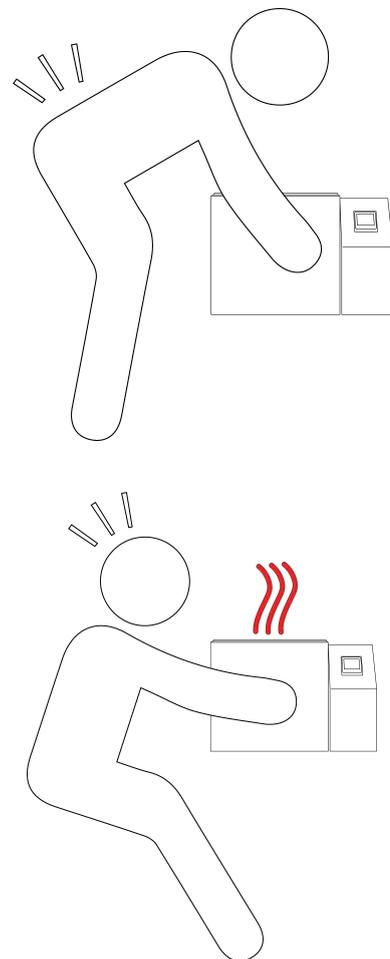

**Fig 1 . Unpacking Process (Box)**
- Removing the box requires the cling wrap and straps to be cut, then expose the bath by carefully sliding the box upwards. **(Fig 1)**